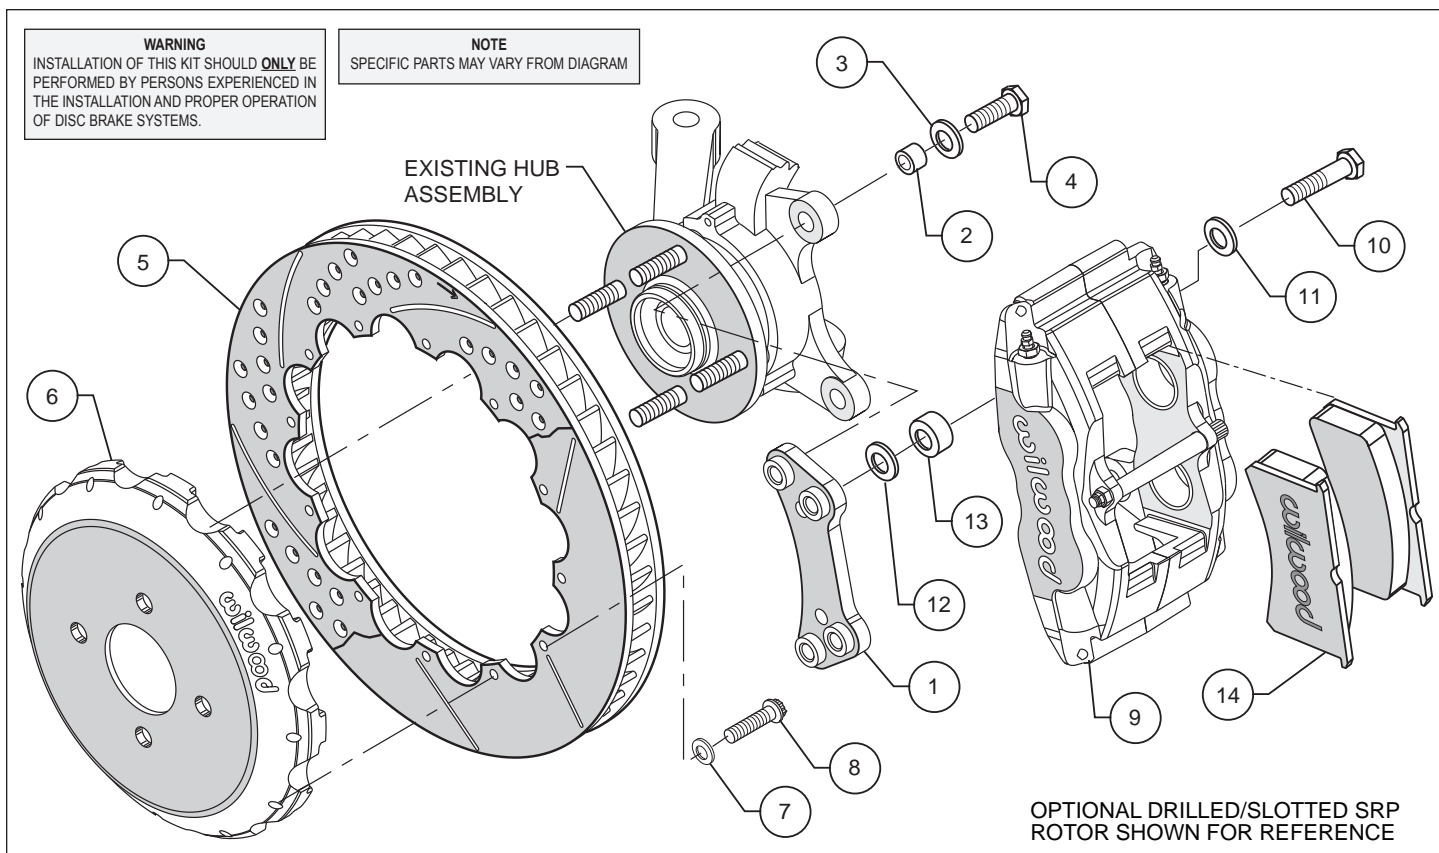

Figure 1. Typical Installation Configuration
- Insert one sleeve (2) each into the holes on the top and bottom of the spindle "ears" where the OEM caliper bracket was removed. Apply red *Loctite*® 271 to the caliper mounting bracket bolt threads (4) before installation of the caliper mounting bracket (1). Install the bracket with the flanged heads of the clinch nuts facing outboard, as shown in Figure 1. Slide bolt (4) through washer (3) and into the previously installed sleeve (2), from the backside of the hub. Finger tighten. Repeat for the lower mounting holes. Torque bolts to 75 ft-lb.
•**NOTE:** Please reference the caution statement at the beginning of the assembly instructions. With the bleed screws pointing up, mount the caliper (9) onto the caliper mounting bracket (1) using bolts (10) and washers (11). Insert spacer between the caliper ears and the bracket before tightening the bolts. View the rotor (5) through the top of the caliper. The rotor should be aligned in the center of the caliper. If not, loosen the two bolts and adjust the caliper by using 0.016 inch thick shims (12), placed between the spacer (13) and the bracket, Figure 1. Finger tighten and recheck alignment. Always use the same amount of shims on both the top and bottom caliper mounting bolts. Loosen the two bolts and apply red *Loctite*® 271 to bolt threads and torque to 75 ft-lb.
•Remove the caliper bridge bolt and install the disc brake pads (14) then reinstall the caliper bridge bolt. Repeat this procedure for the other wheel.